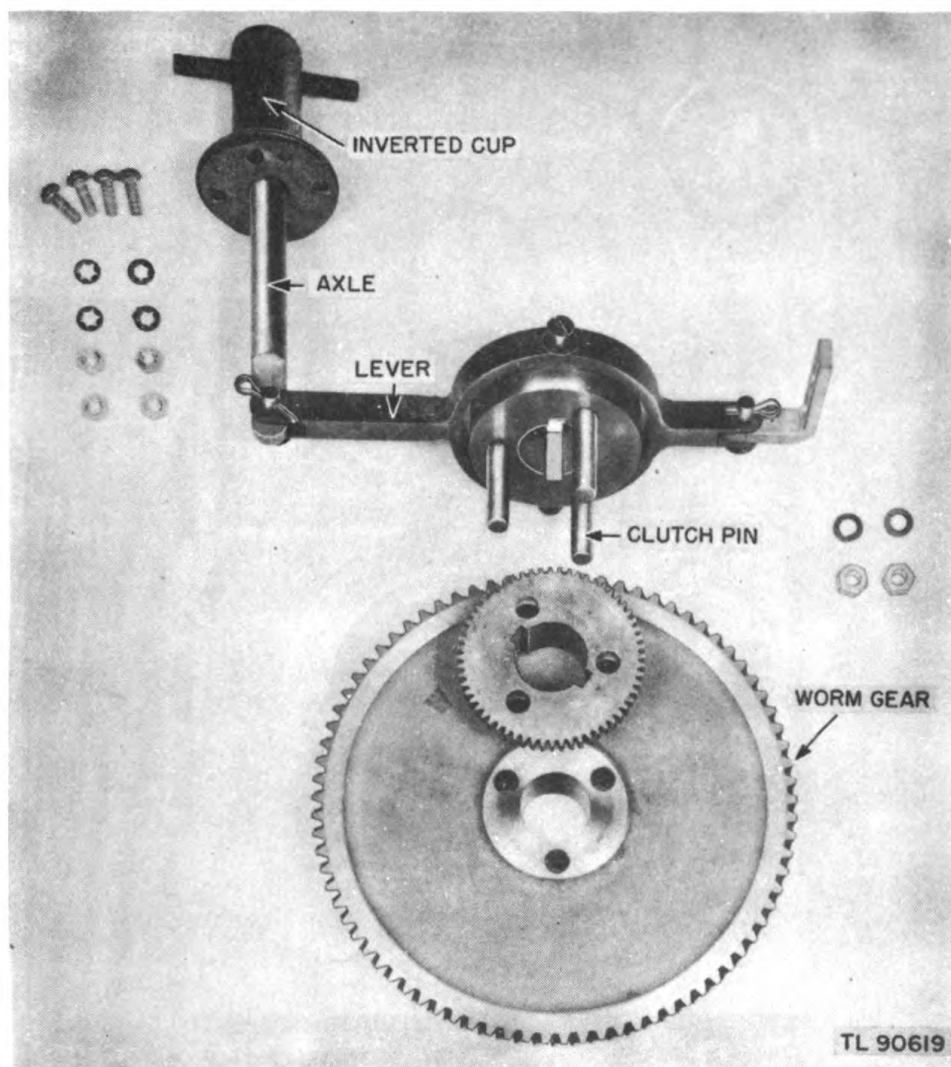

Figure 16. Clutch, exploded view.
**16. CLUTCH.** The floating clutch (fig. 16) is made up of a collar with three pins protruding downward into the special drive worm gear. The clutch is activated by a lever operated externally at the top of the antenna mount by means of an inverted cup sliding on a grooved axle. The clutch is placed in neutral when the cup is pulled upward. Twisting the cup locks the clutch in neutral.